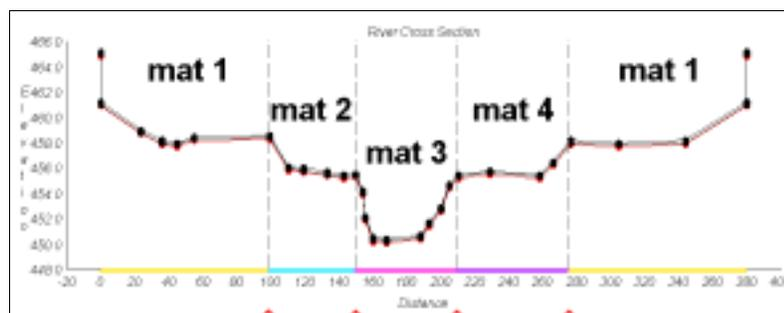

Figure 14-4 The materials to assign.
4. Repeat this process, highlighting the material as shown in Figure 14-4.